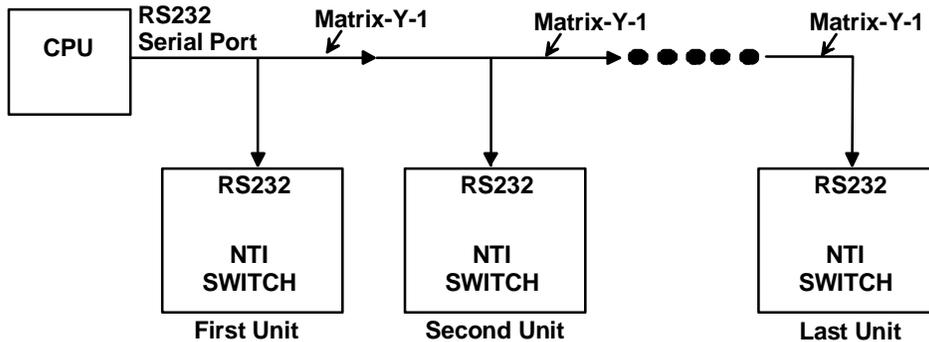
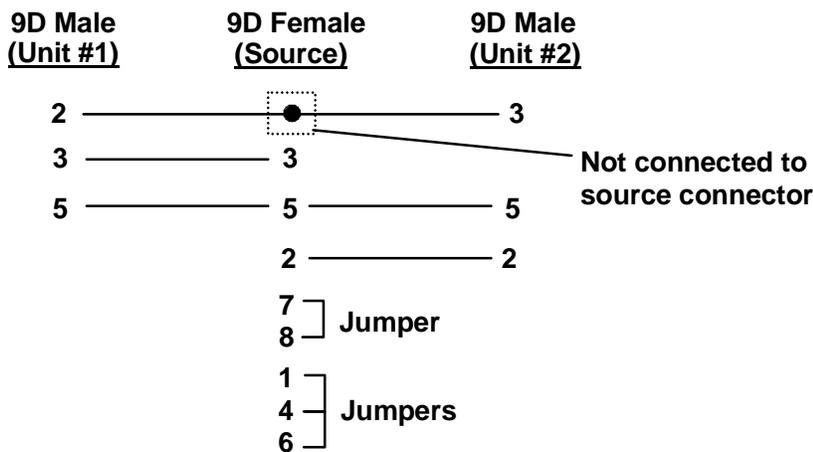

Figure 14- RS232 connection with Matrix-Y-1 cable
Figure 15- Pinout of Matrix-Y-1 cable
**Note:** In order to connect multiple KEEMUX units together a Matrix-Y-1 cable must be used. (See Fig. 14.) See Fig. 15 for the pinout of the Matrix-Y-1 cable. The Matrix-Y-1 cable is available from Network Technologies Inc.